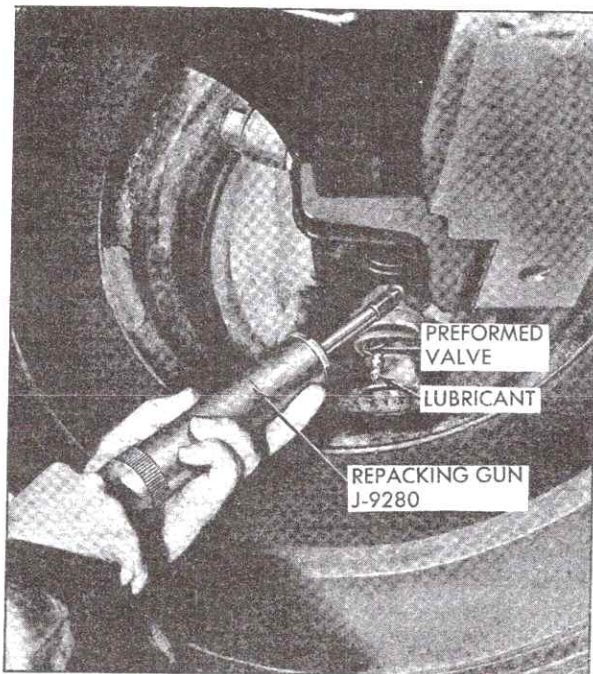

Fig. 3-43 Repacking Lower Spherical Joint (693)
5. Lubricate ball joint fitting until grease escapes from valve in side of seal as shown in Fig. 3-43.